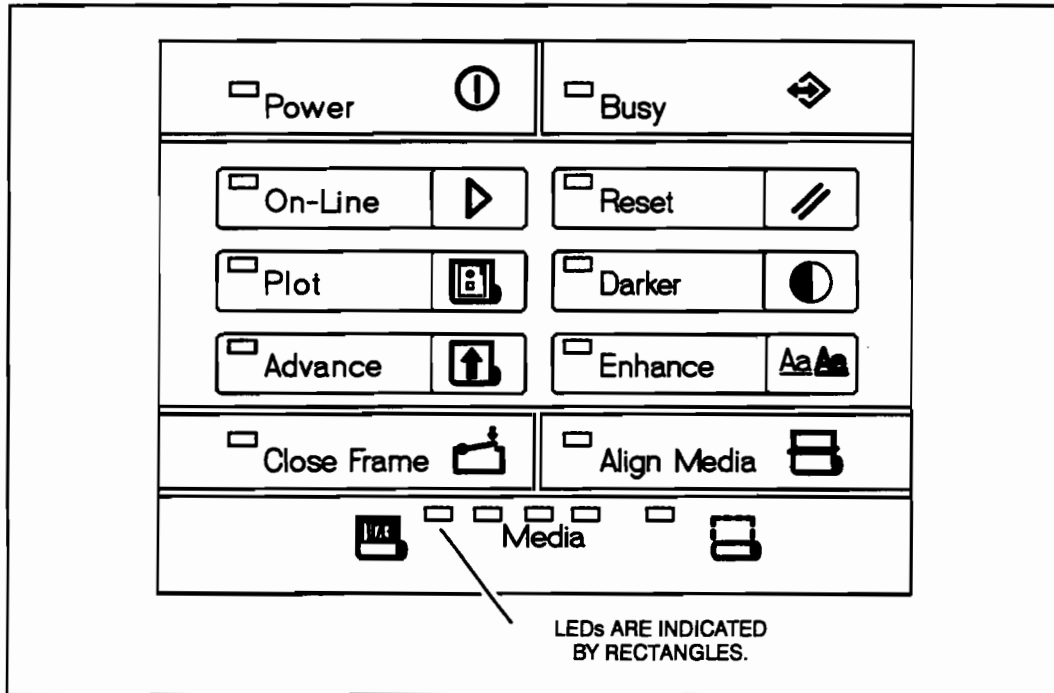

Figure 3-48. Front Panel Buttons
6. The power LED on the front panel should light up at this point. See Figure 3-48 for an illustration of the front panel LEDs.